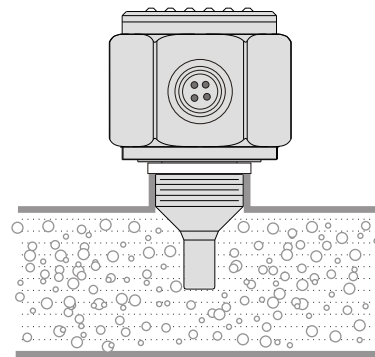

Fig. 2
2. Make sure that the pipe is bubble free for proper alarming.(Fig. 2)